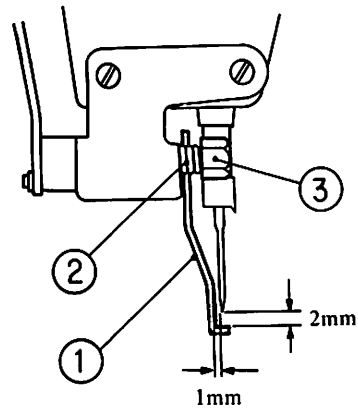

Fig. 38
2) Then, as shown in Fig.38, insert the wiper ① into the driving shaft ② and bring the tip of the wiper so that it will come to 2mm (approx. 1/16") under the point of the needle. Make sure that the space between the flat surface of the wiper and the center of the needle comes to 1mm (approx. 5/128").